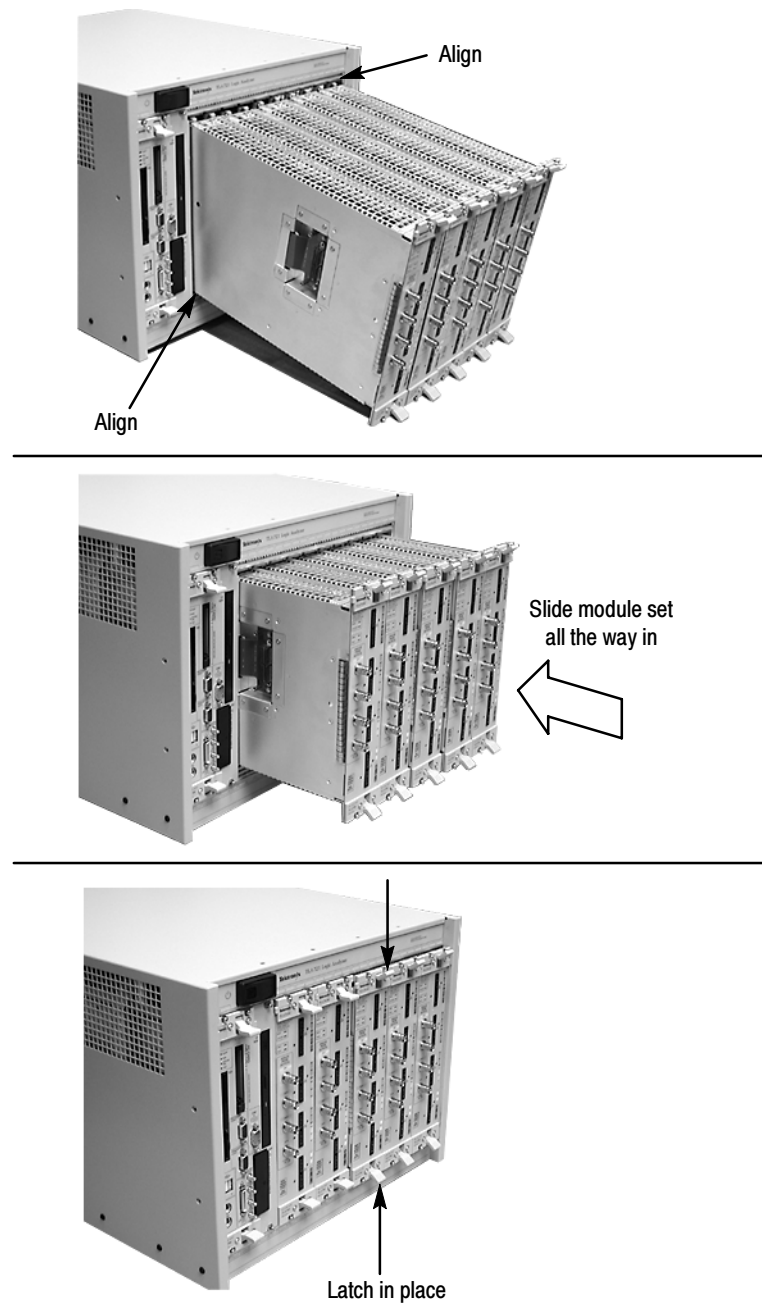

Figure 26: Installing the merged module set in the mainframe
10. Align the tops and bottoms of the modules with the slots in the mainframe (see Figure 26 on page 34). You may need the help of another individual if your merged module set contains more than two modules.